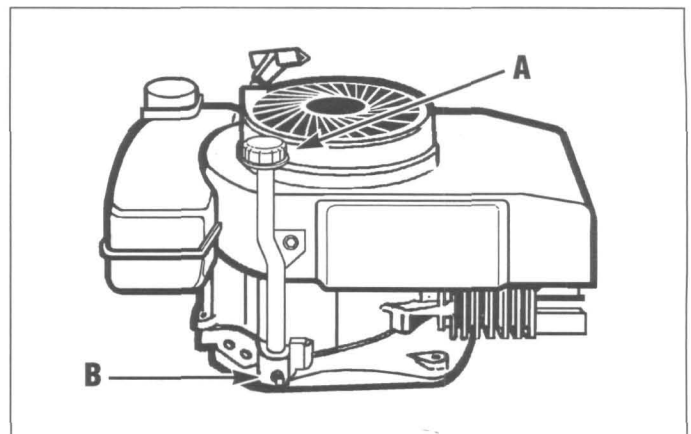

Figure 21: Dipstick (A) and oil drain plug (B).
B. To avoid contaminating the engine oil with dirt, clean the area around the dipstick (A, Figure 21). Remove the dipstick and wipe it with a clean cloth. Screw the dipstick fully inward and then remove it to check the oil level.
B. The oil drain plug (**B** in Figure 21 on Page 23) is located at the bottom of the dipstick tube.
E. Remove the dipstick (**A**, Figure 21) to vent the crankcase and speed up draining time.